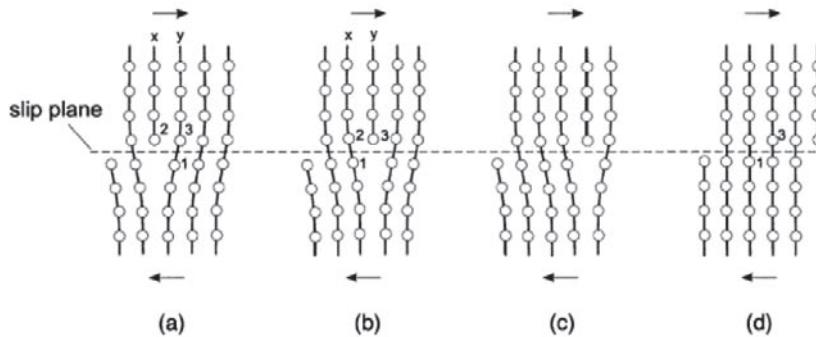

Figure 1: Movement of dislocation
- (b). Figure 1 shows movement of dislocation (from Figures (a) to (d)). Discuss what does this figure represent and what is the significance of this figure in metal deformation.